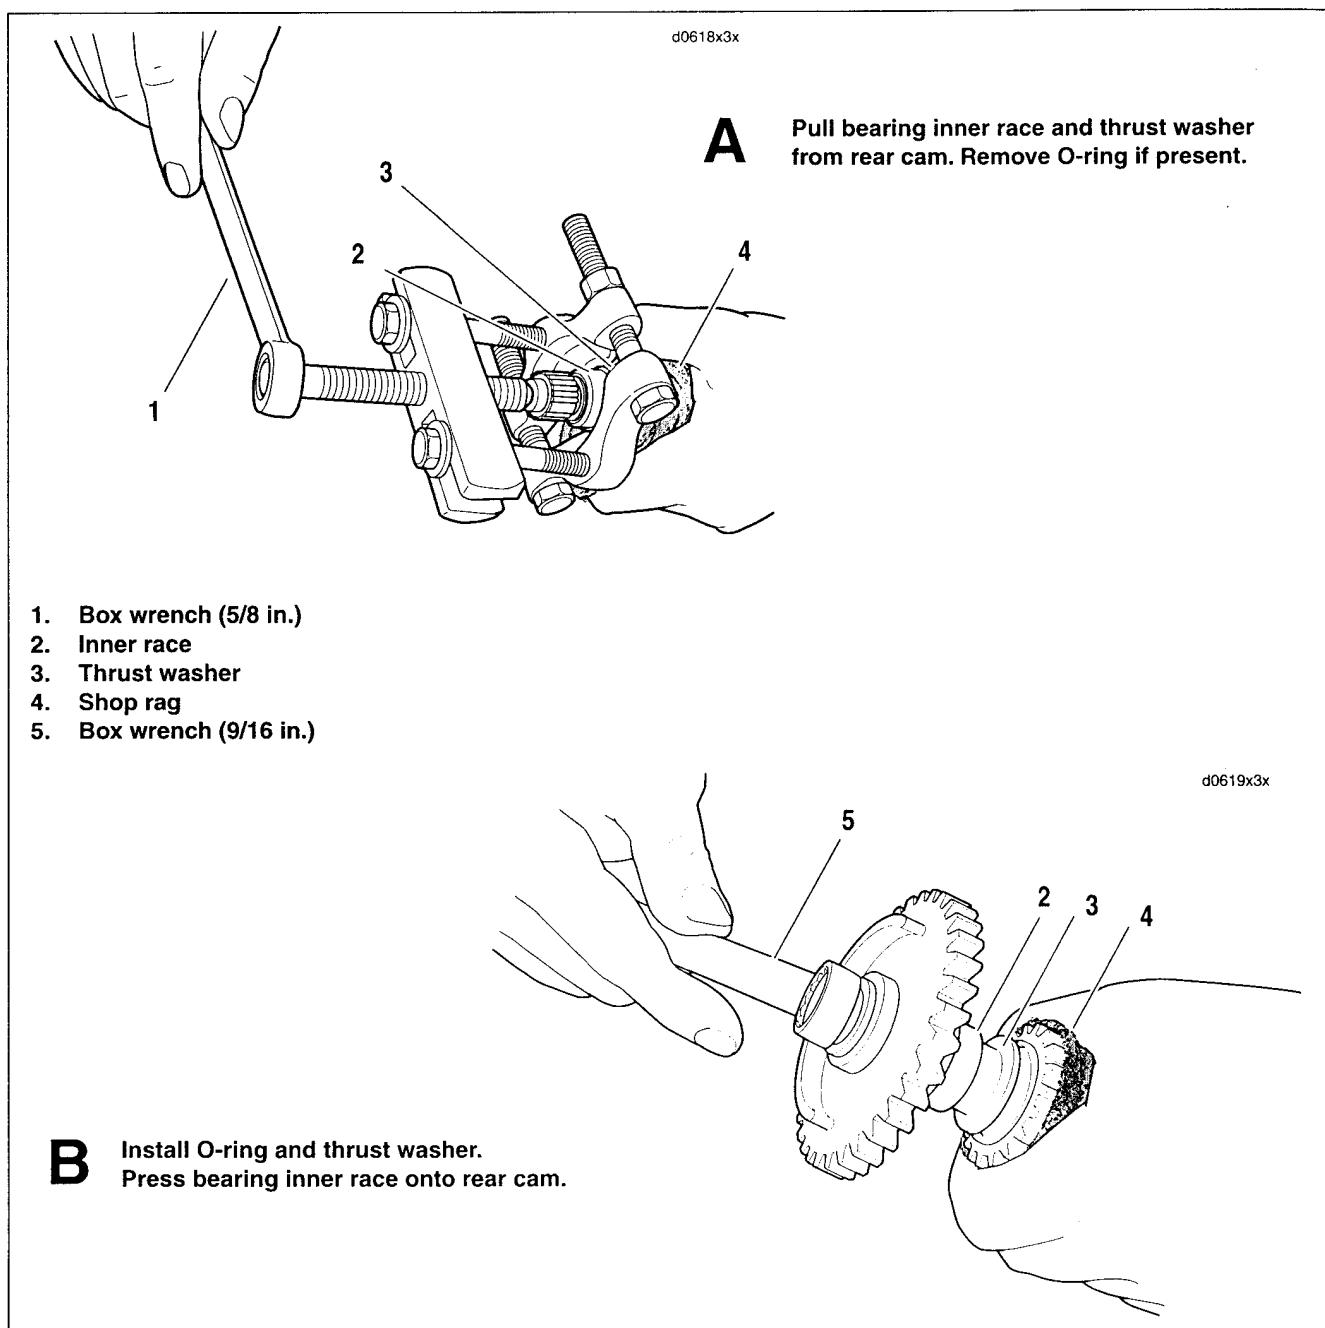

Figure 3-134. Remove/Install Bearing Inner Race (With O-Ring and Thrust Washer) Onto Rear Camshaft
- d. See A of Figure 3-134. Using a 5/8 in. box wrench (1), turn forcing screw until bearing inner race (2) and thrust washer (3) are pulled free of camshaft. A light interference fit allows the parts to be removed with little effort. Discard inner race and thrust washer.
- e. See B of Figure 3-134. Wrap a shop rag (4) around camshaft to get a firm grip and also to protect hand from sharp edges of sprocket. Using a 9/16 in. box wrench (5), turn flange bolt in a clockwise direction. Bearing inner race (2) is fully installed when it makes firm contact with the thrust washer (3).